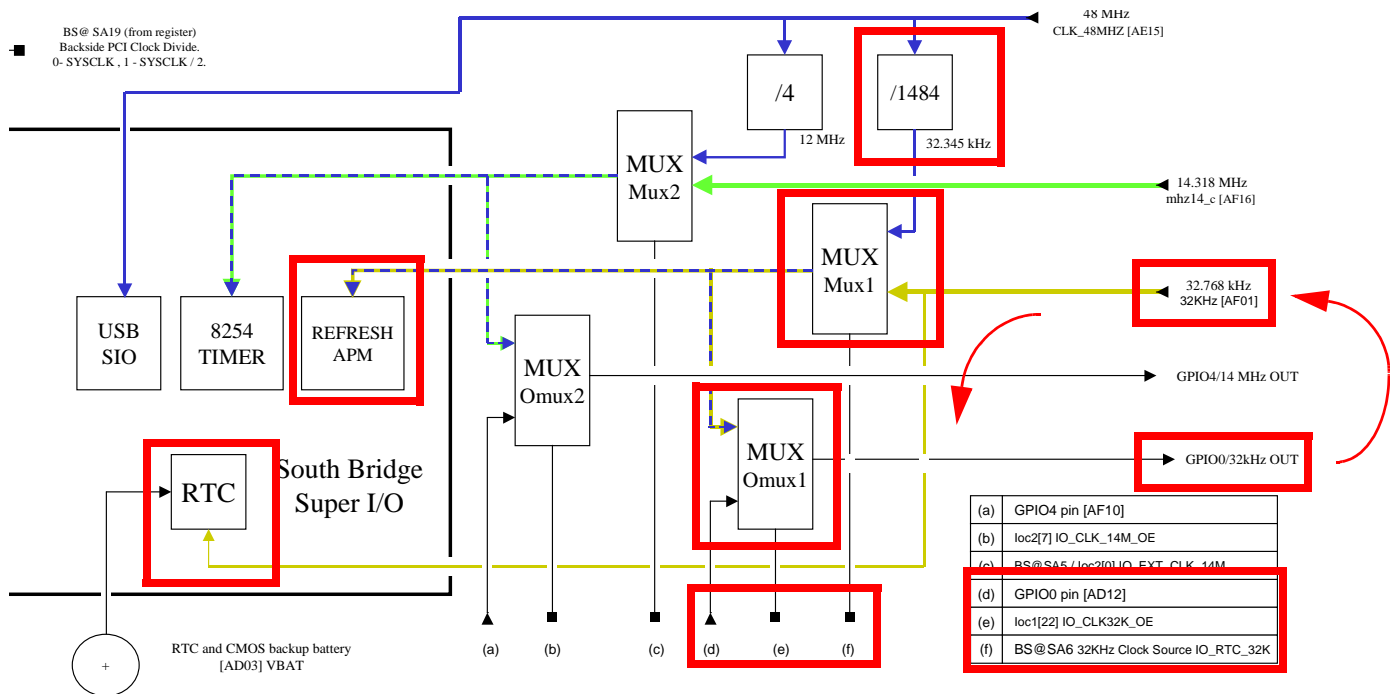

Figure 5-11 32KHZC_C [AF01] Clocking Control Circuitry
c. Drive the 32KHz Real Time Clock with GPIO[0] output which is USB_48MHz/1484. See [Figure 5-11 "32KHZC_C \[AF01\] Clocking Control Circuitry" on page 450.](#)